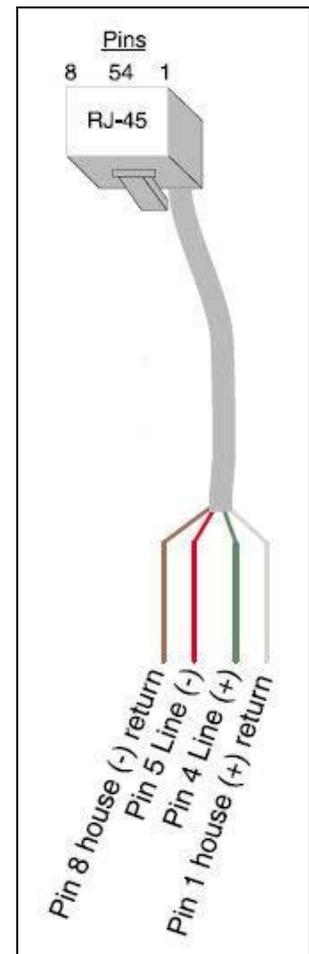

Figure 5
A. Security Interface (see *Figure 5*):